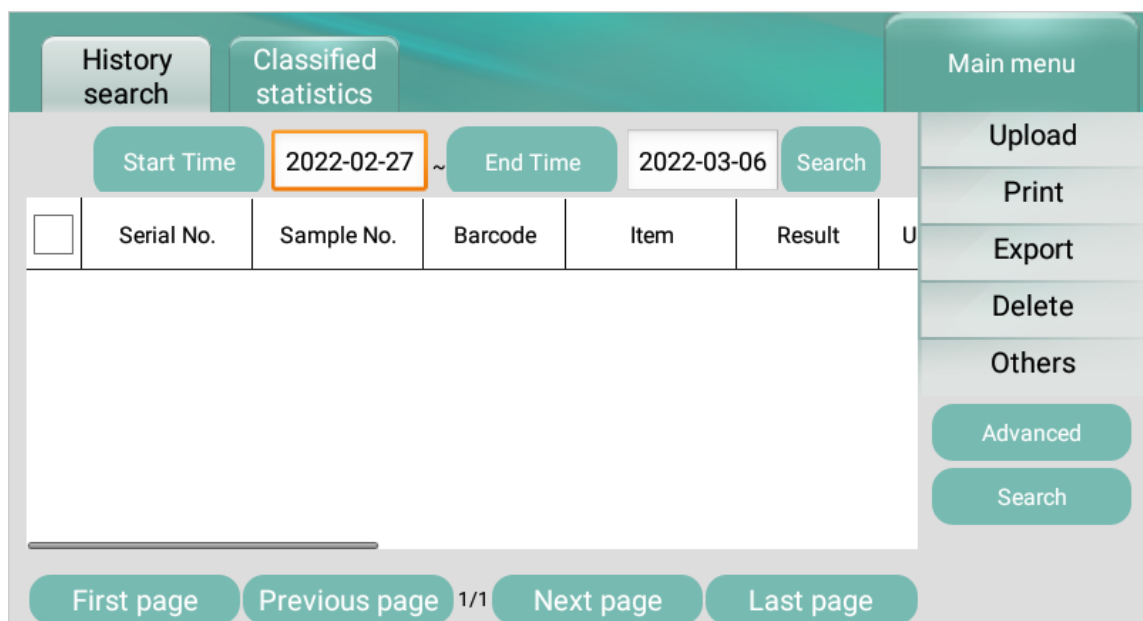
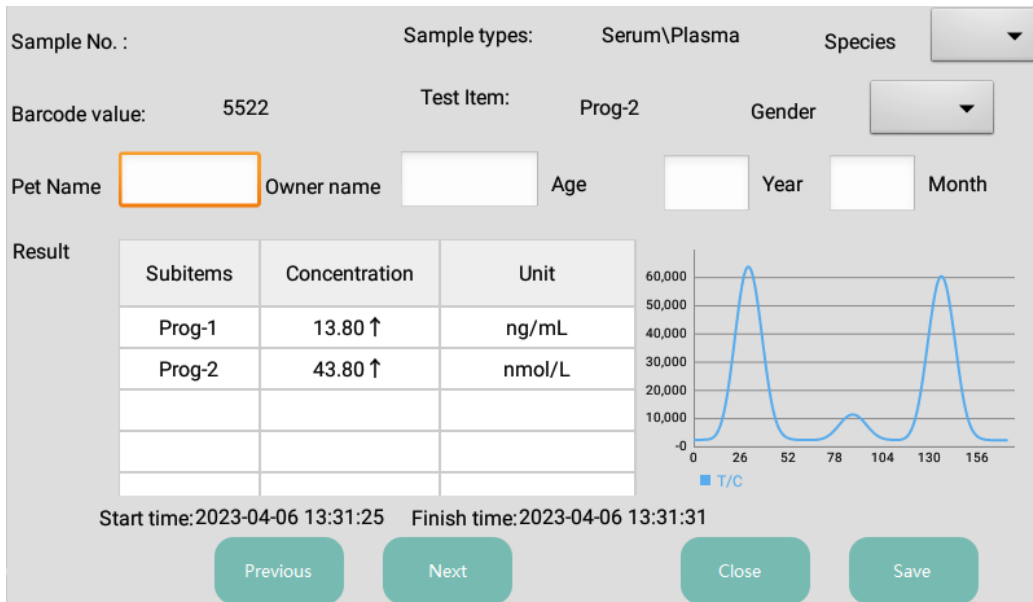
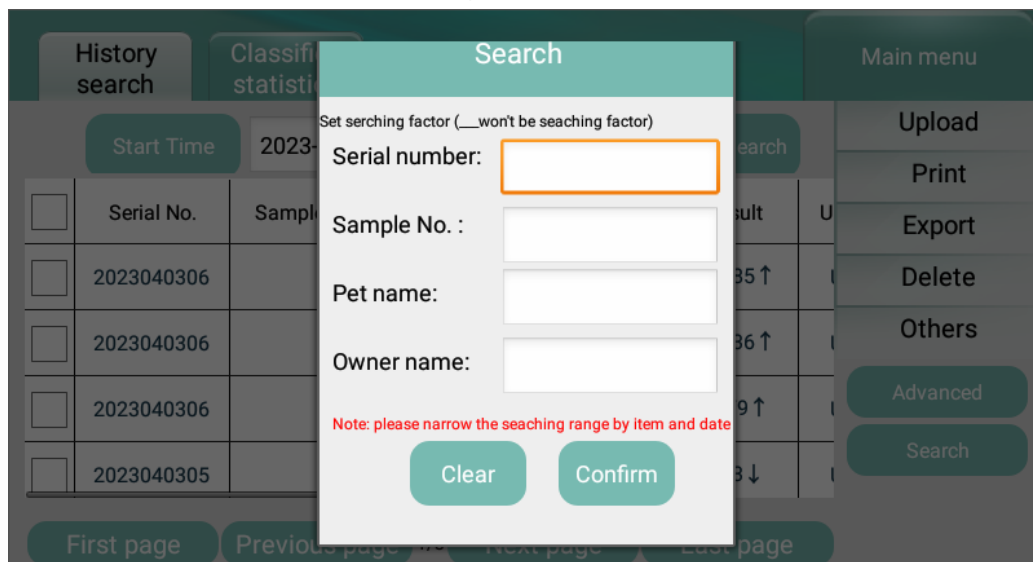

Figure 4.4.1
Figure 4.4.2.
Figure 4.4.3
4. Select [Upload] in Figure 4.4.1 to upload the selected records or all records to the LIS/HIS.
5. Select [Print] in Figure 4.4.1 to print the selected records or all records on the internal printer.
6. Select [Export] in Figure 4.4.1 to export the selected records or all records to a USB.
7. Select [Delete] in Figure 4.4.1 to delete the selected records or all records.
8. Select [Advanced] in Figure 4.4.1 to check the advanced information. You can input or modify the patient information on the Advanced page as shown in Figure 4.4.2.
9. Select [History Search] in Figure 4.4.1, set the search date range and press confirm to search the results as shown in Figure 4.4.3